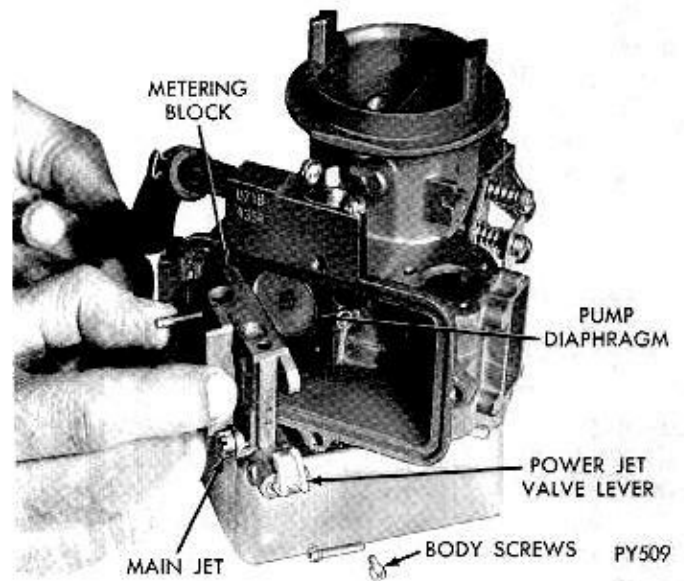

Fig. 7—Removing or Installing Metering Block
(8) Using a suitable tool, remove float retaining clip, then slide float off fulcrum pin.
(9) Remove screws that attach metering block, then remove metering block (Fig. 7).
(8) Turn carburetor with bowl opening up then position metering block in carburetor, (Fig. 7). Install screws and tighten securely.
(9) Engage choke link with choke lever and fast idle cam. Place cam in position, then install retaining screw. Tighten screw securely.